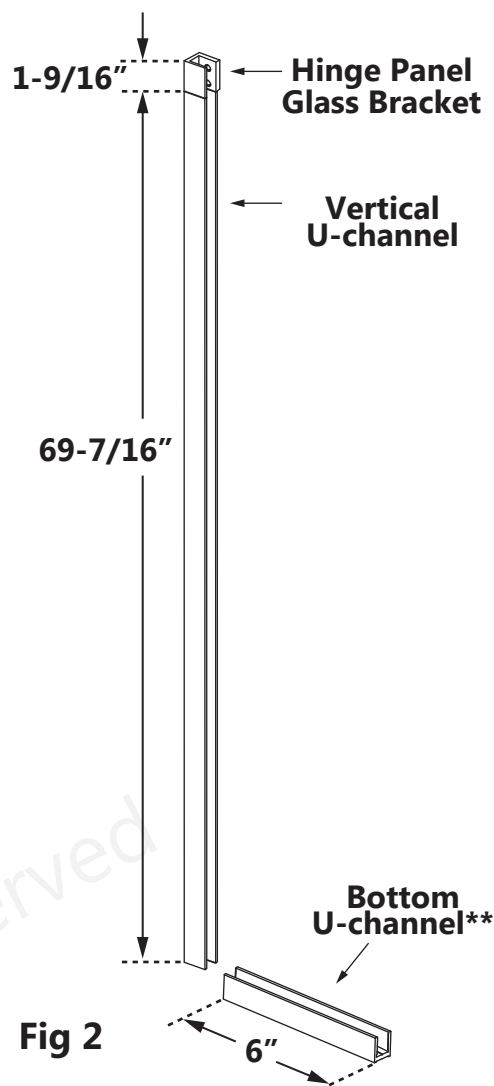

**Fig 1**
**1.** Draw a line on the threshold and up the wall to represent the outside edge of the U-channels. Make sure the line is parallel to the front edge of the threshold. **(Fig 1)**